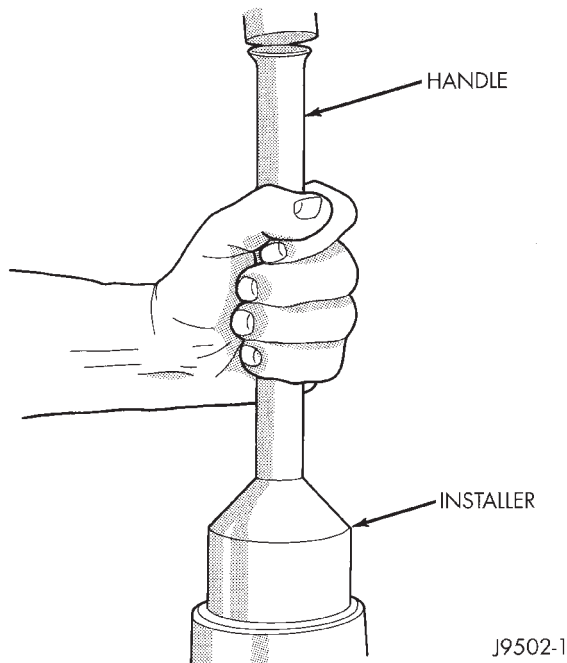

Fig. 8 Pinion Seal Installation
(1) Apply a light coating of gear lubricant on the lip of pinion seal. Install seal with Installer D-163 and Handle C-4171 (Fig. 8).